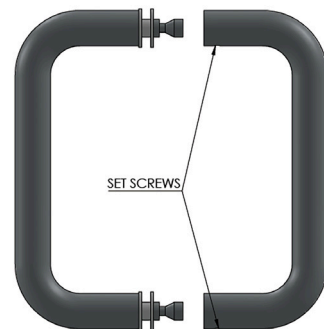

FIGURE 27
To attach the Back-to-Back C-Pull (F), first loosen set screws with an allen wrench and take the pull apart. (See Figure 27)